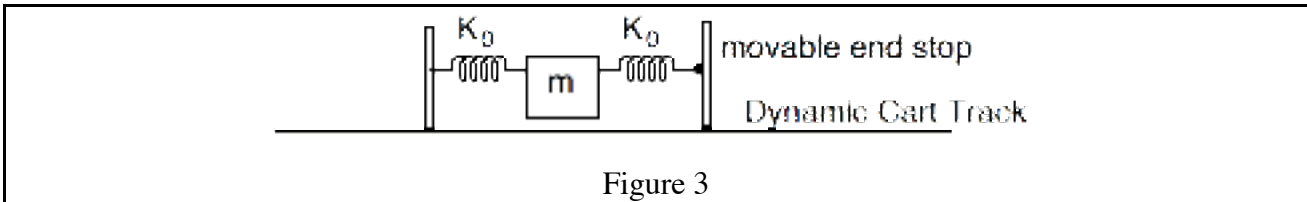

Figure 3
force $F = k_0x$. In the equilibrium position both springs are stretched the same amount, so the total force is zero. Refer to Figure 3.
1. Remove the string from the dynamics cart and replace it with a spring identical to the first. Attach this spring to a movable end-stop and adjust the system to stretch each spring approximately 30 centimeters. Refer to figure 3.